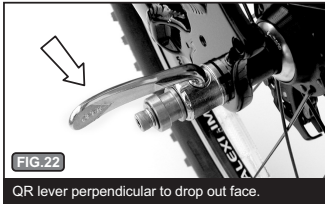

FIG. 22
**E)** With the QR lever perpendicular (at a 90 degree angle) to the frame, Fig. 22, tighten the adjusting nut clockwise until it is snug against the dropout face.
**G)** If you do not feel this resistance turn the quick release lever back to the adjusting position, Fig. 22. Tighten the QR adjust nut by hand (it is not necessary to use tools) one or two more turns in the clockwise direction. Proper adjustment requires 80 to 105 inch - pounds of torque to move the lever to the fully "CLOSED" position.